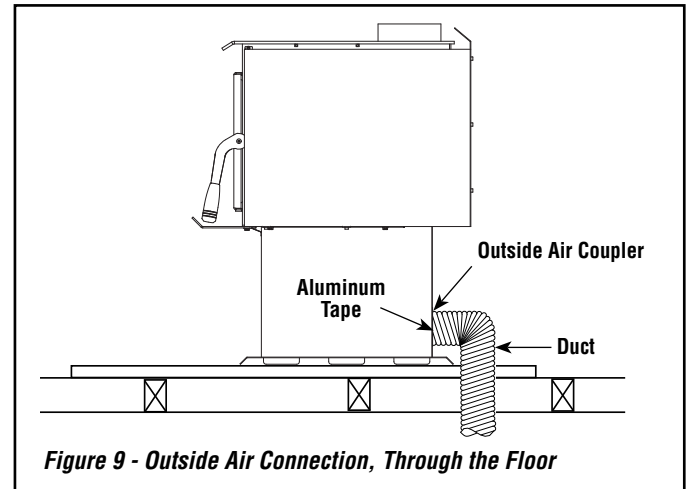

Figure 9 - Outside Air Connection, Through the Floor
- Attach the duct to the coupler on stove (*see Figures 9 and 10*). Using the aluminium tape provided, wrap the tape around the joint between the flexible duct and the air inlet.